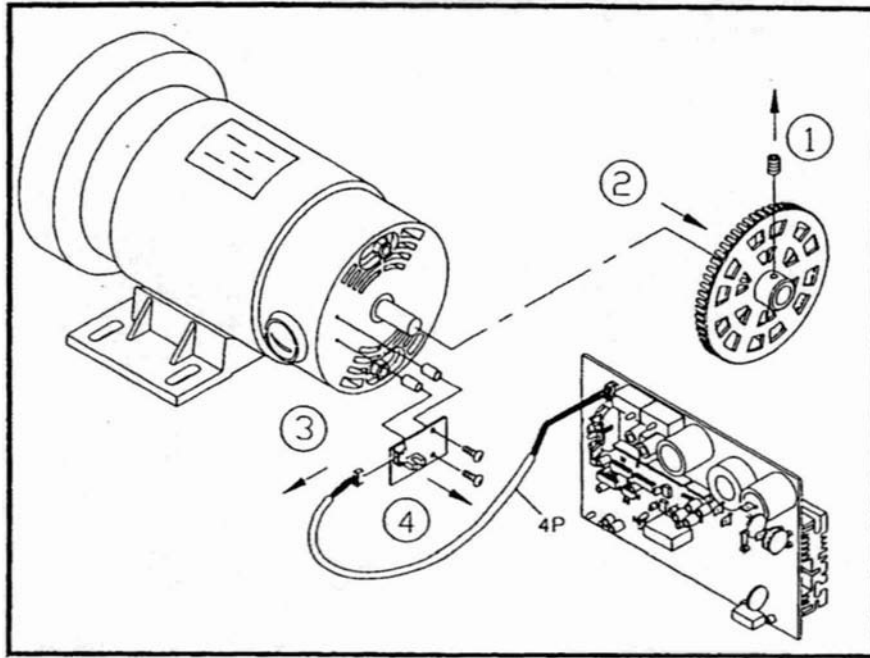

Fig.1
2. Take out screw on the shaft of motor. Remove old-style tachometer wheel and disconnect the 4 pin cable from optical switch. Loosen screws securing the optical switch. Then remove optical switch.(see Fig.1)